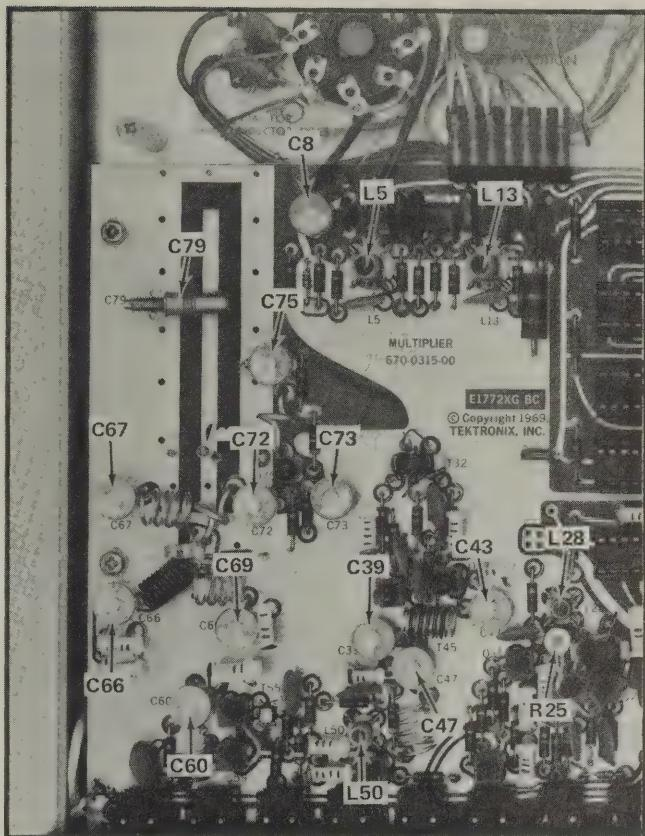

Fig. 5-6. Location of adjustments for multipliers.
- Set R25 (Fig. 5-6) midrange.
e. ADJUST—C60 (Fig. 5-6) for maximum amplitude of the 200 MHz (5 ns) sine-wave display. Check intermodulation percentage as described in step 5f. Intermodulation should not exceed 4% at 20°C . (Maintenance check only.) If intermodulation is excessive, adjust L50 a slight amount for optimum flatness.
e. ADJUST—C66, C72, and C79 (Fig. 5-6) for maximum signal amplitude. Adjust C67, C69, C73 and C75 for optimum flatness and amplitude. Adjustments C66, C67, C69 and C72 all interact. Do not move these adjustments very far from their original setting. Because of interaction, a number of